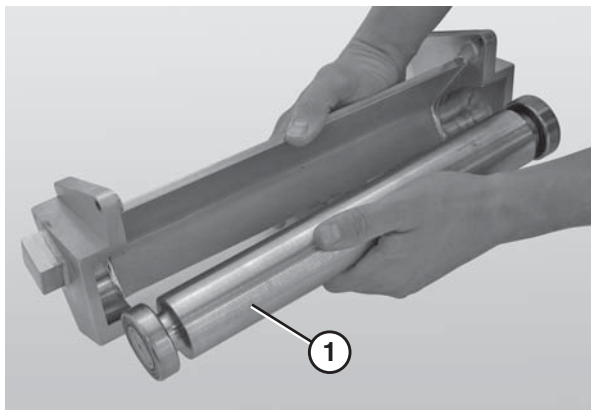

Figure 68
6. Remove the nose bar return spindle (Figure 68, item 1).